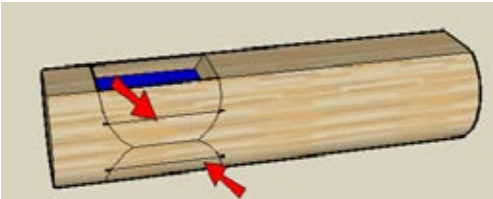

Figure 3-74
14. Select both of these extended faces and run Intersect with Model. Trim the faces, and you're left with some new intersection edges, indicated in Figure 3-74.